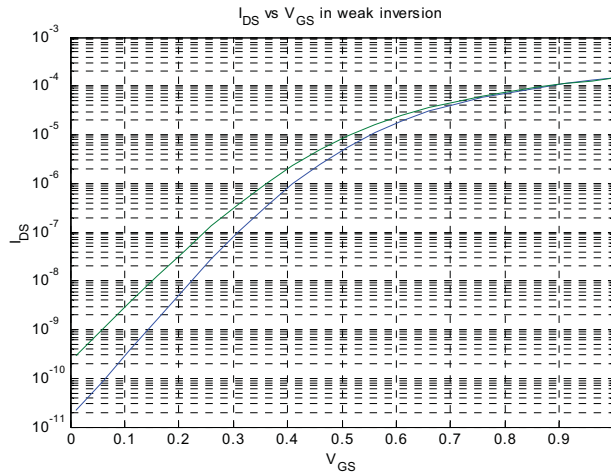

Figure 0.9 Subthreshold current curves. Difference is due to process variations
13. [E, None, 3.3.2] The curves below in Figure 0.9 represent the gate voltage (V_{GS}) vs. drain current (I_{DS}) of two NMOS devices which are on the same die and operate in subthreshold region. Due to process variations on the same die the curves do not overlap.